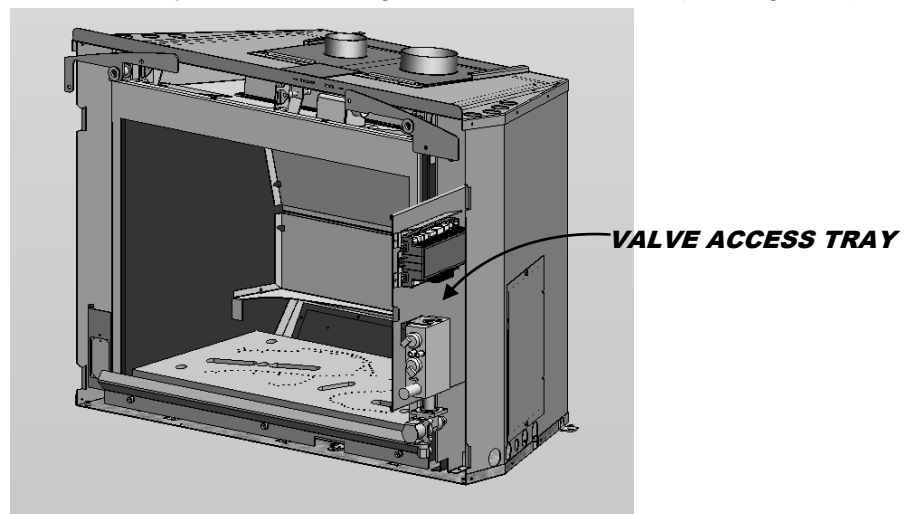

Figure 1
1. Locate and pull the valve access tray out from the right side of the DVI 44. (see Figure 1)
2. Locate the original power cord wire harness that is connected to the control board. Disconnect the three wires from the control board. Before the wire harness can be pulled away from the unit you must disconnect the terminal from the ground wire that is connected to the t-tap. (pull the terminal away from the t-tap) This ground connection will be reconnected to the hardwire harness. (see Figure 1)